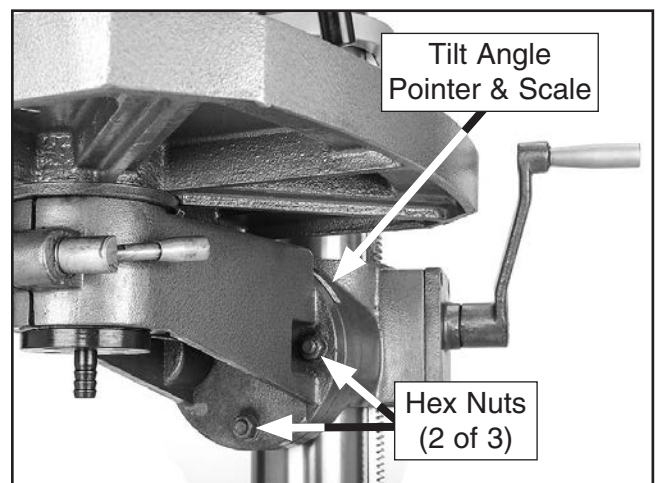

Figure 13. Table tilt controls.
2. Loosen three hex nuts shown in **Figure 13**.
3. Tilt table until pointer aligns with desired angle on scale (see **Figure 13**).